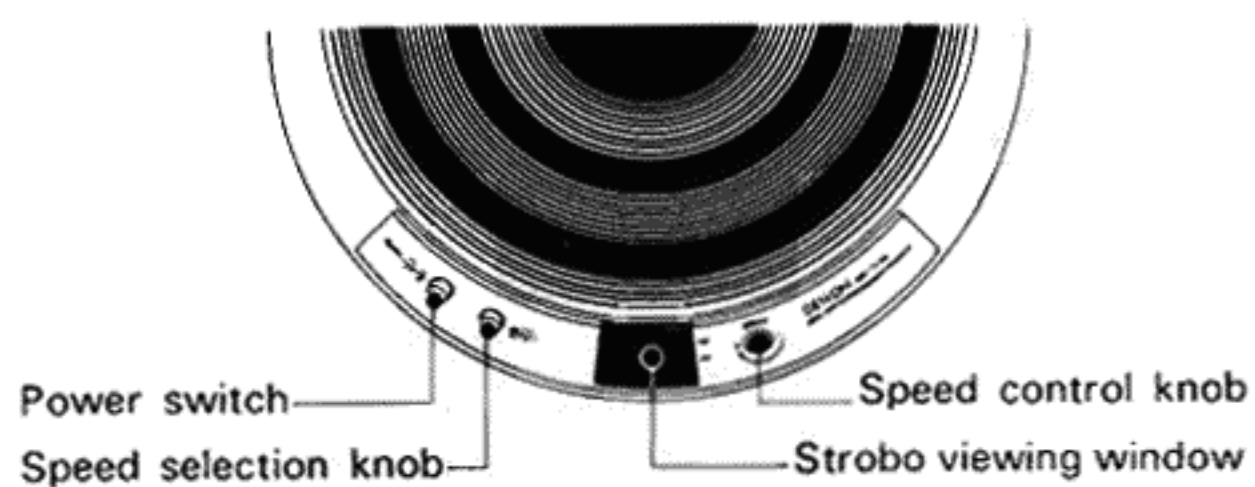

Fig. 18 Control panel
3. Speed adjustment (Fig. 18)
The speed control knob controls both 33 and 45 tuning. Adjust the speed with this knob to bring the upper strobo pattern still for 45 rpm and lower pattern for 33-1/3rpm. (Fig. 18)